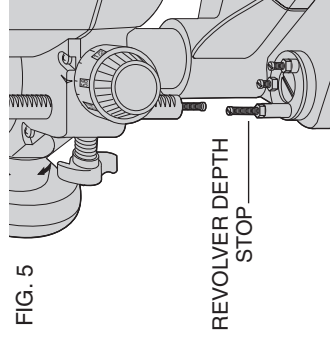

FIG. 5
- 5) Turn the height adjustment knob counterclockwise until it hits the revolver depth stop (Fig. 5).
TRIPLE DEPTH ADJUSTMENT USING THE REVOLVER DEPTH STOP (FIG. 5)